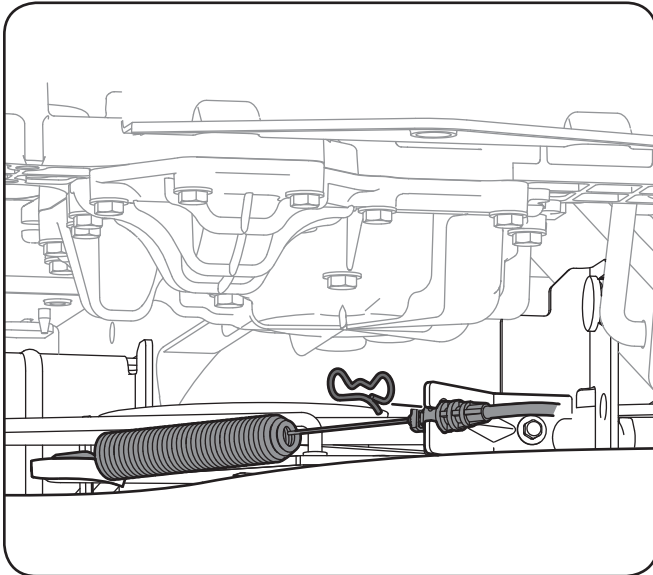

Figure 7-2
7. Remove the bow pin that secures the PTO cable to the bracket on the deck, slide the PTO cable out of the bracket and unhook the spring from the idler bracket. See Figure 7-2.